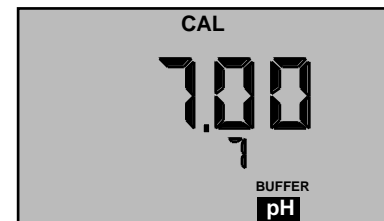

Figure 6
4. Press **CAL/MCLR** to enter calibration mode. The "CAL", "BUFFER" and "7" annunciators will appear (see Figure 6). Displayed value